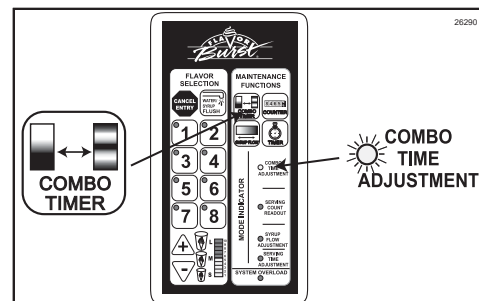

Figure 188
- Press and hold the COMBO TIMER key for three seconds until the COMBO TIMER ADJUSTMENT light is illuminated. (See Figure 188.)